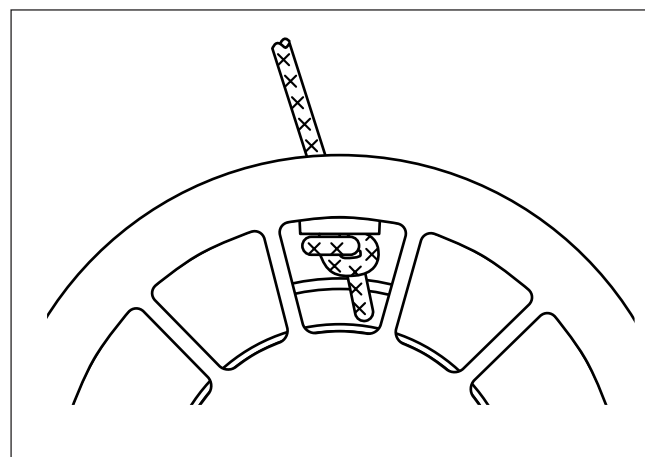

Fig.14-9
- 3 Put the rope into the reel, taking care that the rope end does not stick up. (Fig. 14-9)